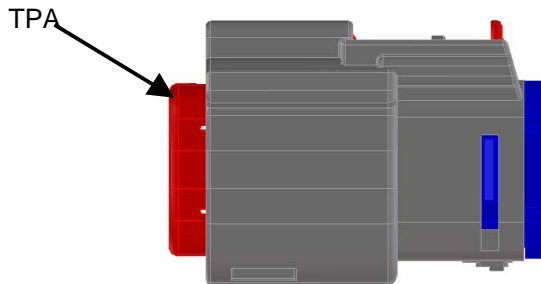

Figure 1: TPA in Pre-Lock Position
1. Begin assembly of the crimped female terminals into the receptacle housing by making sure the Terminal Position Assurance feature (TPA) is in the pre-locked position (See Figure 1). If it is not, insert the blade of a screwdriver into the slots in the TPA found adjacent to latch or opposite. Apply slight pressure and pry the TPA out until it clicks. You are now ready to insert terminals or circuit plugs.